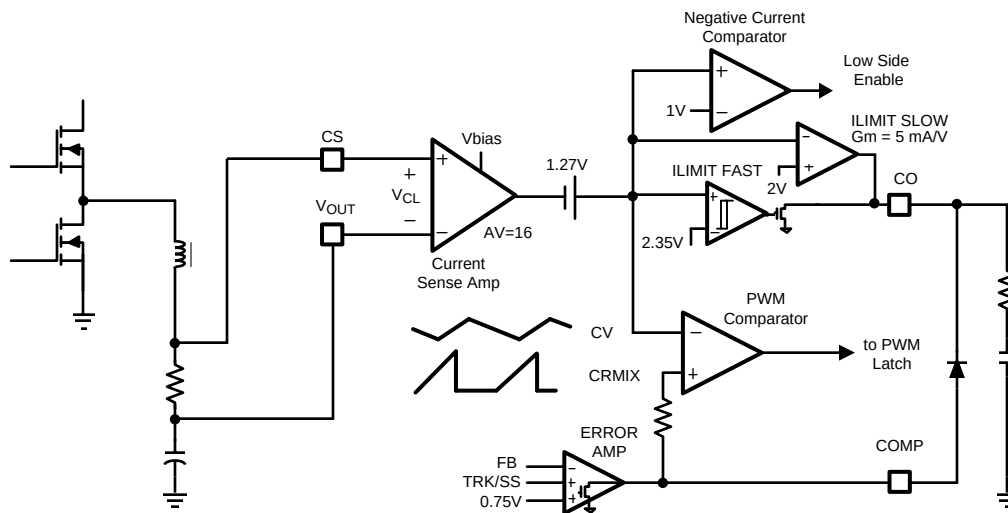

Figure 21. Current Sensing and Limiting
The current sense amplifier shown in Figure 21 monitors the inductor current as it flows through a sense resistor connected between CS and VOUT. The voltage gain of the sense amplifier is nominally equal to 16. The current sense output signal is shifted by 1.27V to produce the internal CV reference signal. The CV signal is applied to the negative input of the PWM comparator and compared to CRMIX as illustrated in Figure 21. Therefore when CRMIX exceeds the PWM threshold (CV), the PWM comparator turns on the high-side MOSFET. Insure that the Vbias voltage is at least 3V above the regulated output voltage (VOUT) to provide enough headroom for the current sense amplifier.
Current limiting is implemented through the current sense amplifier as illustrated in Figure 21. The current sense amplifier monitors the inductor current that flows through a sense resistor connected between CS and VOUT. The voltage gain of the current sense amplifier is nominally equal to 16. The output of current sense signal is shifted by 1.27V to produce the internal CV reference signal. The CV signal drives two current limit amplifiers. Both of the current limit amplifiers have open drain (sink only) output stages which are connected to the CO pin. The CO pin is typically connected to the COMP pin through a diode (the cathode is connected to the CO pin and the anode is connected to the COMP pin). The slow current limit amplifier has a nominal transconductance of 5 mA/V and provides constant current mode operation at the desired current limit set point. The fast current limit amplifier has nominal current pull-down capability of 100mA and provides protection against fast over-current conditions. During normal operation, the voltage error amplifier controls the COMP pin voltage which adjusts the PWM duty cycle by varying the internal CRMIX level. However when the current sense input voltage, V_{CL} ,
exceeds 45mV, the slow current limit amplifier gradually pulls down on COMP through the CO pin. Pulling COMP low reduces the CRMIX signal and thereby reducing the operating duty cycle. By controlling the operating duty cycle, the slow current limit amplifier will force a constant current mode of operation at the desired current limit set point (Figure 23). A resistor in series with a capacitor are connected from the CO Pin to ground to provide adequate control loop compensation for the slow current limit (Figure 21). The desired current limit set point, ILimit, can be programmed by selecting the proper current sense resistor, R_{SENSE} , using the following equation:
Under certain conditions synchronous buck regulators are capable of sinking current from the output capacitors. This energy is stored in the inductor and returned to the input source. The LM5115A detects this current reversal by detecting a negative voltage being developed across the current sense resistor. The intent of this negative current comparator is to protect the low-side MOSFET from excessive currents. Excessive negative current can also lead to a large positive voltage spike on the HS pin at the turn-off of the low-side MOSFET. This voltage spike may damage the chip if its magnitude exceeds the maximum voltage rating of the part. The negative current comparator threshold is sufficiently negative to allow inductor current to reverse at no load or light load conditions. It is not intended to support discontinuous conduction mode with diode emulation by the low-side MOSFET. The negative current comparator shown in Figure 21 monitors the CV signal and compares this signal to a fixed 1V threshold. This corresponds to a negative V_{CL} voltage between CS and VOUT of -17mV. The negative current limit comparator turns off the low-side MOSFET for the remainder of the cycle when the V_{CL} input falls below this threshold.